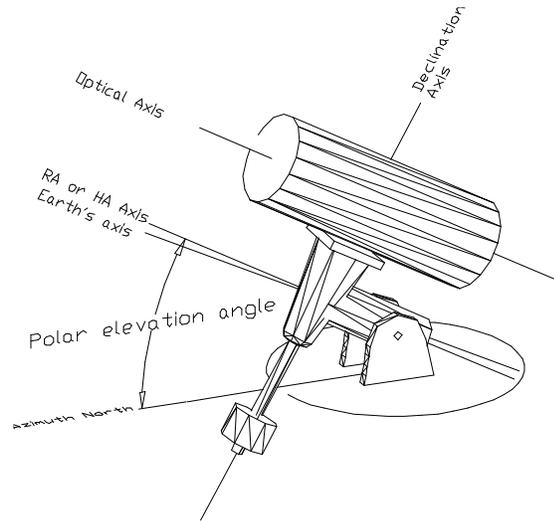
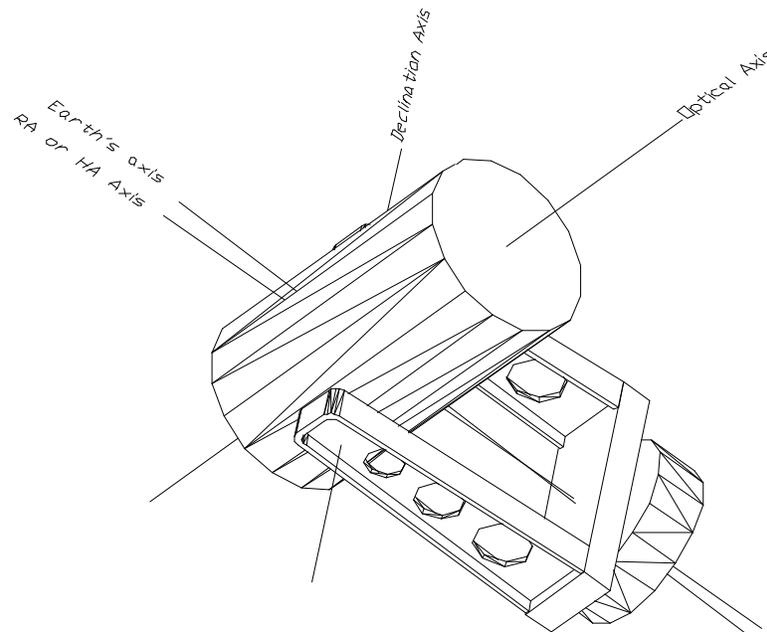

Figure 29: A German equatorial Mount.
Figure 30: A Fork Mounted Telescope.
Figure 29 and Figure 30 show the two most popular telescope mount designs. The following discussions relate to equatorial mounted telescopes. The Right Ascension (RA) or Hour Angle (HA) axis is pointed closely to the celestial pole.